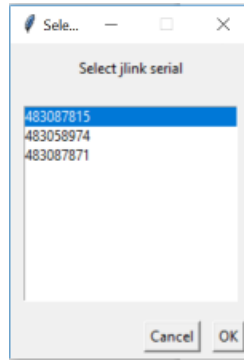

Figure 53. Dialog to select the desired board
- If more than one development kit are connected to the computer, the dialog as in Figure 53 appears in step 5 and step 6, asking you to select which one should be erased or flashed respectively.